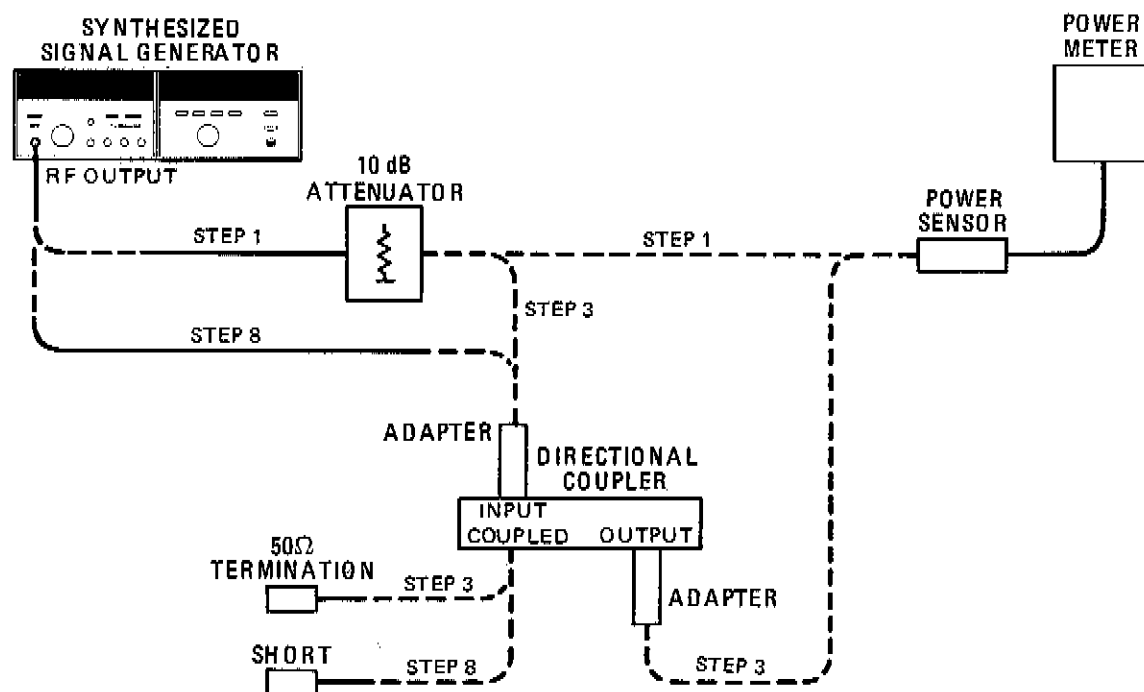

Figure 4-2. SWR Test Setup
- PROCEDURE: 1. Set Synthesizer's controls for an output of 3 GHz at -12 dBm, connect the 10 dB attenuator to Synthesizer's RF OUTPUT connector and measure the power output with the power meter. See Figure 4-2, Step 1.
3. Connect the equipment as shown in Figure 4-2 (step 3).
8. Connect equipment as shown in Figure 4-2 (step 8).